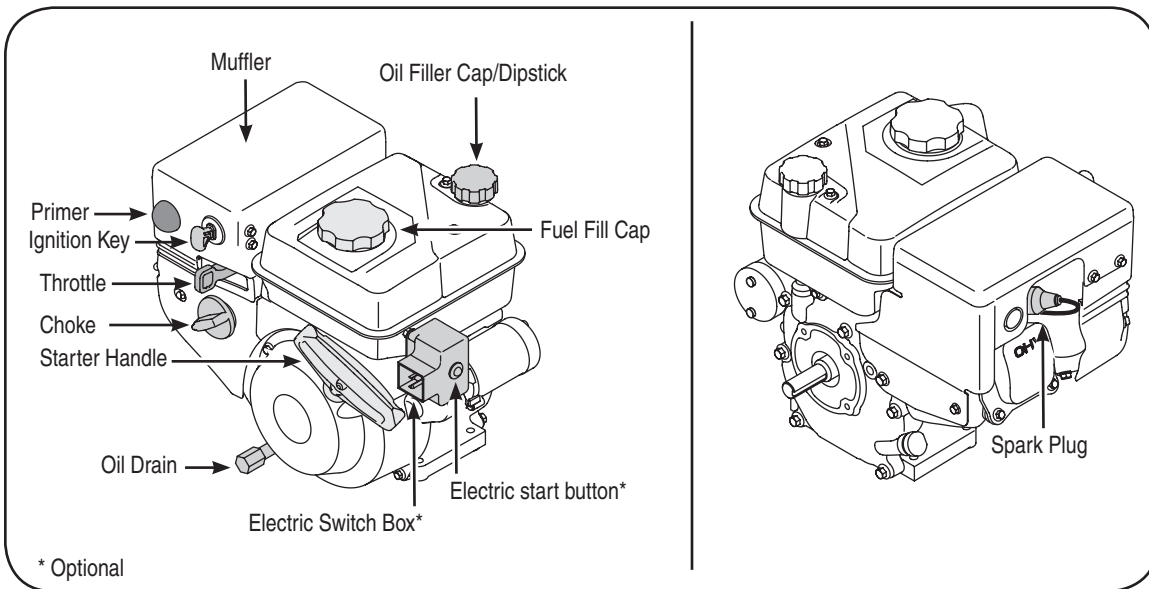

Figure 2-1: Front and rear views of the engine.
4. Move throttle control, Figure 2-1, to FAST (rabbit) position.
5. Move choke to the ON position (cold engine start). If engine is warm, place choke in OFF position, Figure 2-1.
6. Push primer three to five (3-5) times, making sure to cover vent hole when pushing, Figure 2-1. If engine is warm, push primer only once. Always cover vent hole when pushing. Cool weather may require priming to be repeated.
7. Push starter button to start engine, Figure 2-1. Once the engine starts, immediately release starter button. Electric starter is equipped with thermal overload protection; system will temporarily shut-down to allow starter to cool if electric starter becomes overloaded.
2. Move throttle, Figure 2-1, control to FAST (rabbit) position.
3. Move choke, Figure 2-1, to the ON position (cold engine start). If engine is warm, place choke in OFF position.
4. Push primer three to five (3-5) times, making sure to cover vent hole when pushing, Figure 2-1. If engine is warm, push primer only once. Always cover vent hole when pushing. Cool weather may require priming to be repeated.